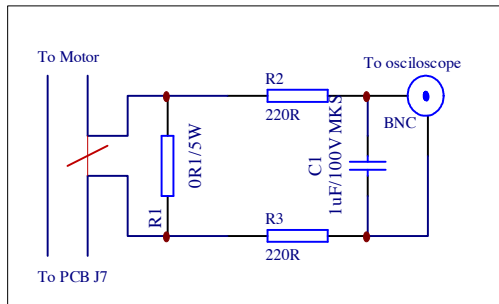

Fig.7a. Measure current motor with serial resistor
For the best results use oscilloscope for motor current measure (see fig.7a or 7b). Settings for oscilloscope :
- Fig 7a : 0,1V/div (give 1A/div), 1ms/div, offset voltage = 0 V;